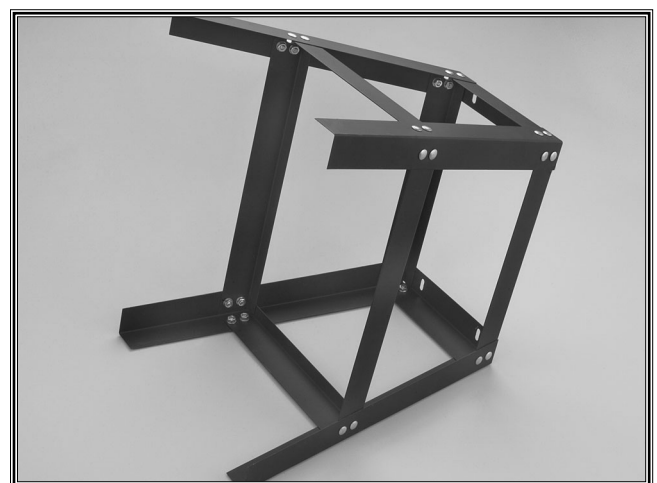

Figure 5. Remaining legs and braces installed..
3. Attach the remaining legs and short upper and lower braces as shown in **Figure 5**.